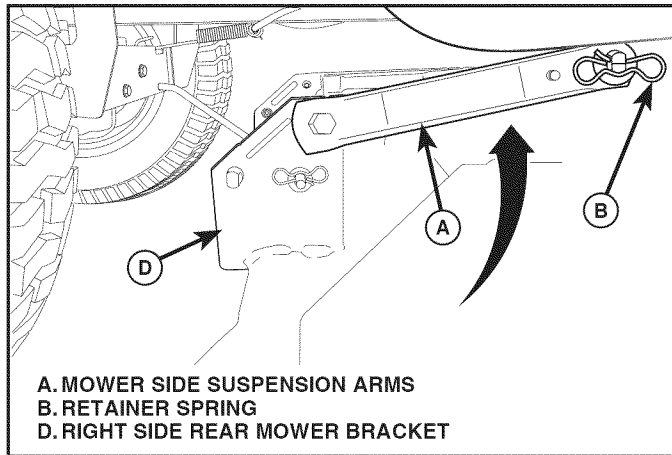

Fig. 36
## 6. ATTACH MOWER SIDE SUSPENSION ARMS (A) TO CHASSIS (See Fig. 36)
- Position front hole in side suspension arm (A) over pin on outside of tractor chassis and secure with large washer and large retainer spring (B).